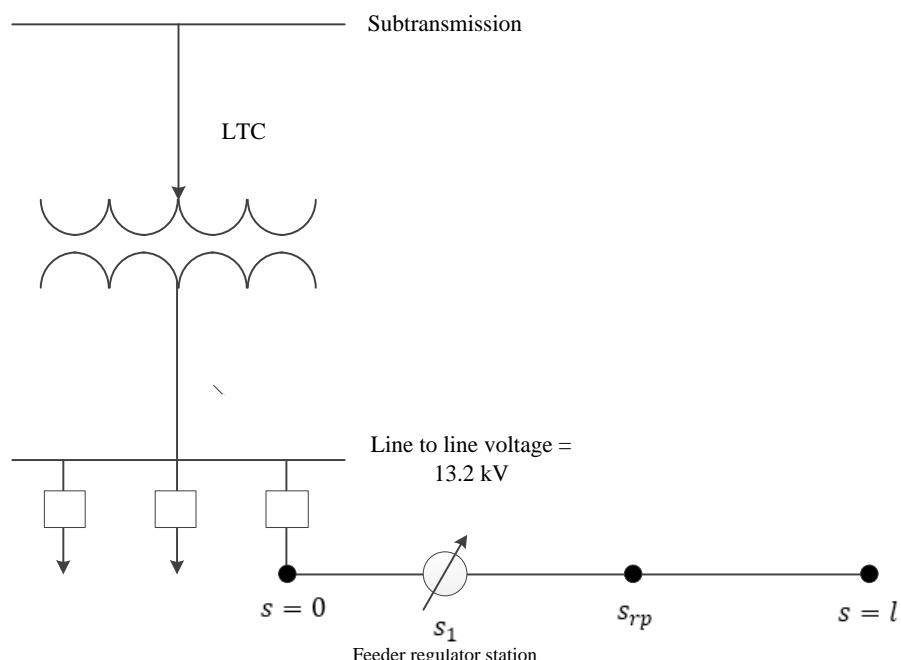

Figure 3.1
3. Figure 3.1 shows the regulator station of size 110 kVA is located at the distance  $s_1 = 1.75 \text{ m}$  and the regulating point is at  $s = l = 10 \text{ m}$ . The feeder is made of 266.8 kcmil AAC with  $k$  constant value of  $3.88 \times 10^{-6} \text{ pu } VD/(kVA \cdot m)$  at 0.85 lagging power factor. It has resistance and reactance of  $0.386 \Omega/\text{m}$  and  $0.4809 \Omega/\text{m}$  respectively, it also has the inductive-reactance spacing factor for the 53 inch geometric mean spacing of  $0.1802 \Omega/\text{m}$ . The annual peak load is 4000 kVA. In addition, you are also given the followings: